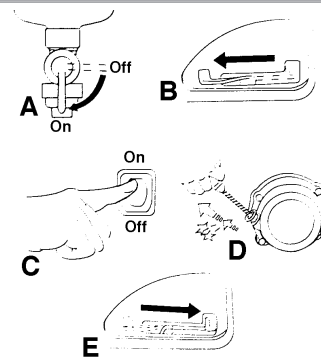

Figure 4
1. Turn the fuel cock lever (A) Fig.4 downwards to the "ON" open position.
2. Pivot the choke lever (B) to the far left position. The choke is not required to start a warm engine.
3. Push the engine switch (C) to "ON".
4. Pull slowly on the recoil starter (D) until it is engaged, then pull it briskly. Take your hand off the recoil starter immediately after the engine starts.
5. Warm up the engine. Move choke lever (E) toward the operating position a short distance at a time over several seconds in warm weather or minutes in cold weather. Let engine run smoothly before each change.
6. Move the choke lever back to the operating position (E).